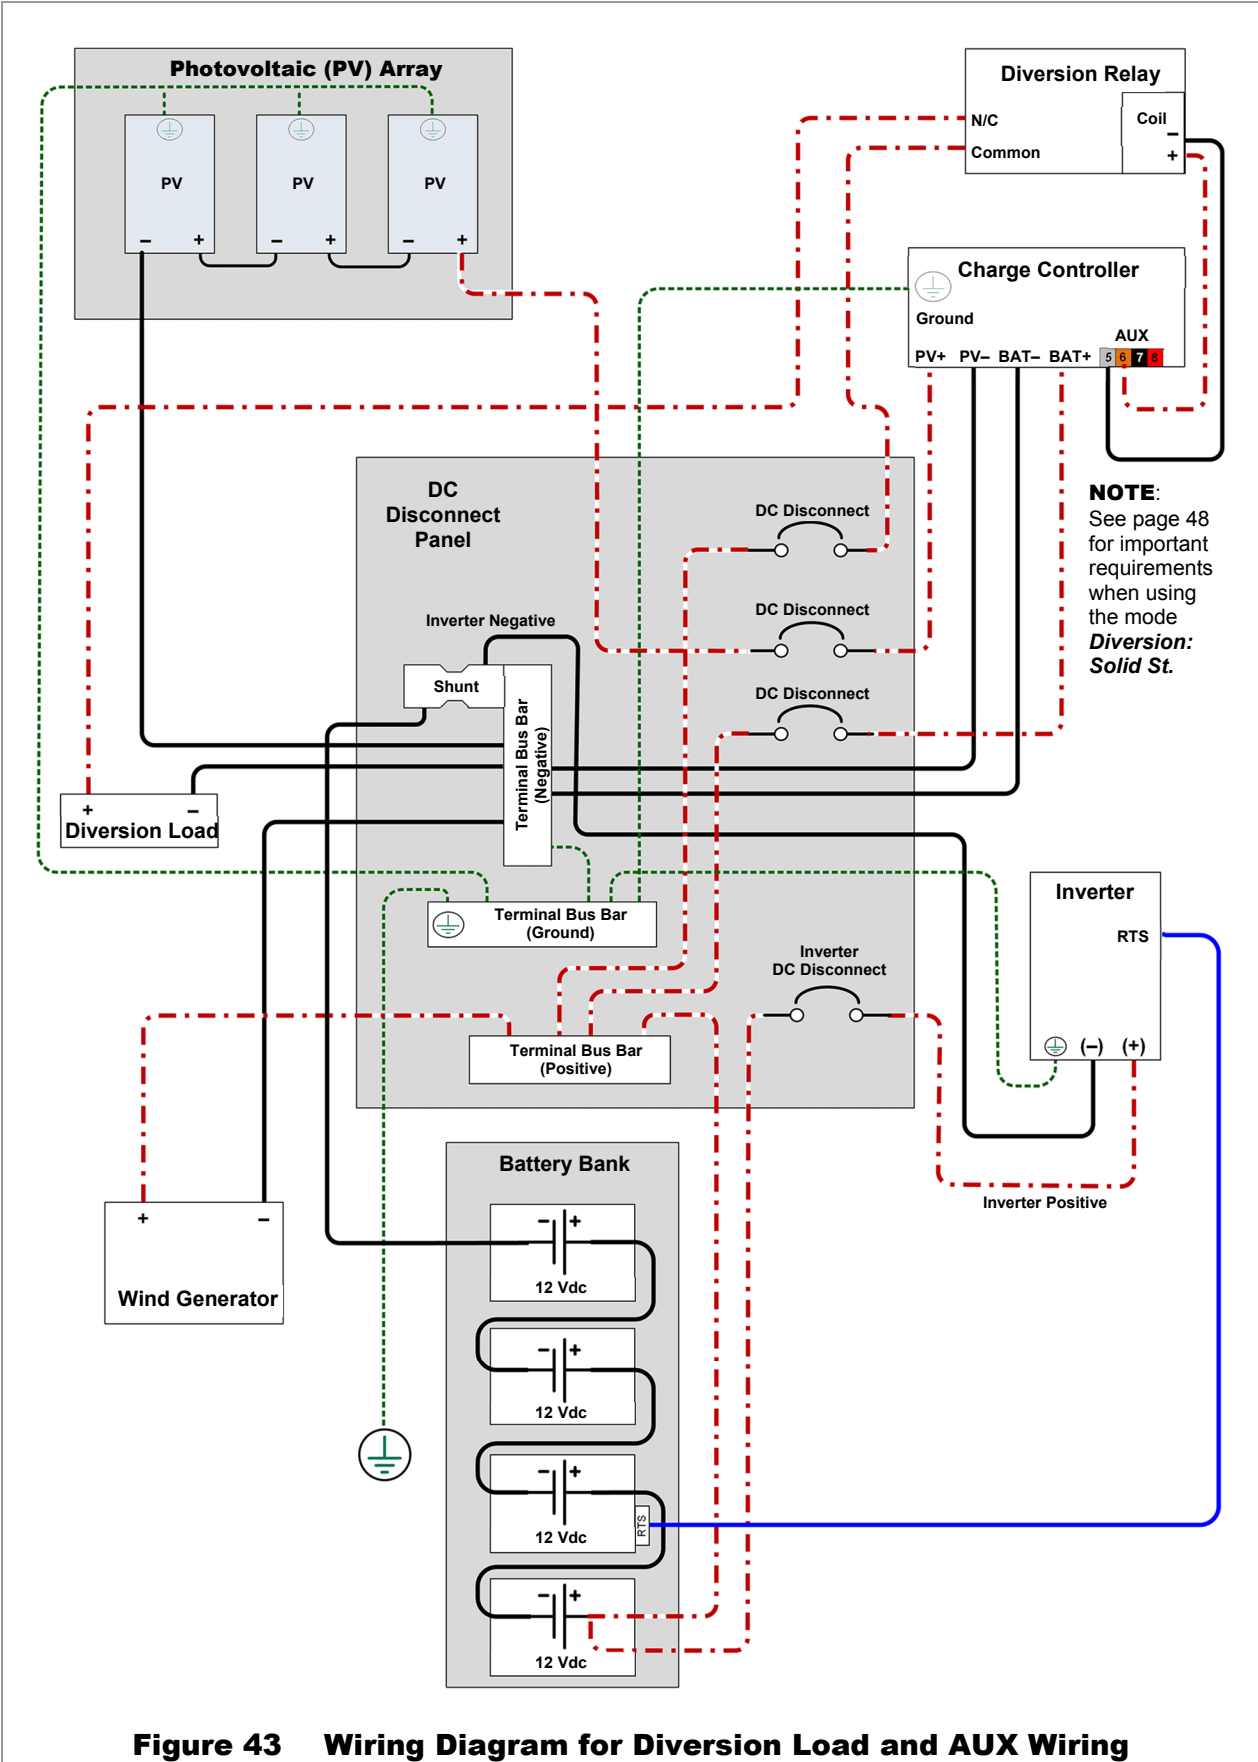

Figure 43 Wiring Diagram for Diversion Load and AUX Wiring
- See Figure 43, page 49, for an auxiliary setup wiring diagram example.
| Diversion: Relay | <div style="border: 1px solid black; padding: 5px; margin-bottom: 10px;"> <p style="text-align: center;">Auxiliary Output</p> <p>Status Manual Off Port 6</p> <p>Aux Mode Diversion: Relay Active Low</p> <p>Relative Voltage 0.0 Hysteresis 0.2 VDC</p> <p>Hold 0.1 Seconds Delay 0 Seconds</p> <p style="text-align: center;">Off Auto On</p> </div> <p>Function: In Diversion mode, the Aux output changes state depending on the charger’s present stage of operation. The voltage must exceed the charger setting (Absorb, Float, or EQ) by the value of the Relative voltage. This must last for the Delay time for the Aux to respond. The Aux returns to its previous state when the voltage drops below the Relative setting by an amount equal to Hysteresis. This must last for the Hold time for the Aux to respond. For a wiring diagram illustrating how to connect this function, see Figure 43 on page 49.</p> <p>Purpose: This mode is intended to divert power from the batteries to prevent overcharging by operating a diversion load at the appropriate time. The Aux output operates a mechanical relay that controls the diversion load. Often used with wind or hydroelectric sources.</p> | <ul style="list-style-type: none"> • Relative voltage • Hold time • Delay time • Hysteresis voltage | <p>Active High: Activates when battery voltage exceeds the set point. Usually controls an auxiliary load to divert power away from the batteries when voltage is too high.</p> <p>Active Low: Activates when battery voltage drops below the set point; deactivates when the voltage exceeds the set point.</p> |
| Diversion: Solid St | <div style="border: 1px solid black; padding: 5px; margin-bottom: 10px;"> <p style="text-align: center;">Auxiliary Output</p> <p>Status Manual Off Port 6</p> <p>Aux Mode Diversion: Solid St</p> <p>Relative Voltage 0.0 Hysteresis 0.2 VDC</p> <p>Hold 0.1 Seconds Delay 0 Seconds</p> <p style="text-align: center;">Off Auto On</p> </div> <p>Function:</p> <p>When the battery voltage increases, the Aux output goes into pulse-width modulation at a rate of 200 Hz. The response is relative to the charger's present stage of operation. The voltage must exceed the charger setting (Absorb, Float, or EQ) by the value of the Relative voltage. This must last for the Delay time for the Aux to respond.</p> <p>The Aux returns to its previous state when the voltage drops below the Relative setting by an amount equal to the Hysteresis voltage. This must last for the Hold time for the Aux to respond.</p> <p>For a wiring diagram illustrating how to connect this function, see Figure 43 on page 49.</p> <p>Purpose:</p> <p>This mode is intended to divert power from the batteries to prevent overcharging by operating a diversion load at the appropriate PWM level. The Aux output operates a solid-state relay for fast and precise control of the diversion load. Often used with wind or hydroelectric sources.</p> | <ul style="list-style-type: none"> • Relative voltage • Hold time • Delay time • Hysteresis voltage | Not Available |